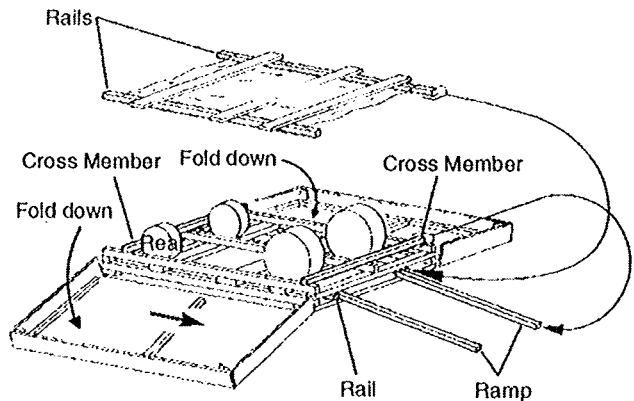

FIG. 2
- Insert the rails taken from the top frame, inside the length of the pallet, centering the rails under the back tire and also under the front tire. See Figure 2.